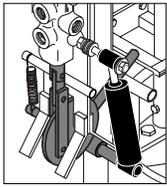

fig. 1
2. Lubricate the reversing mechanism with fine oil — *fig. 1 in gray*.